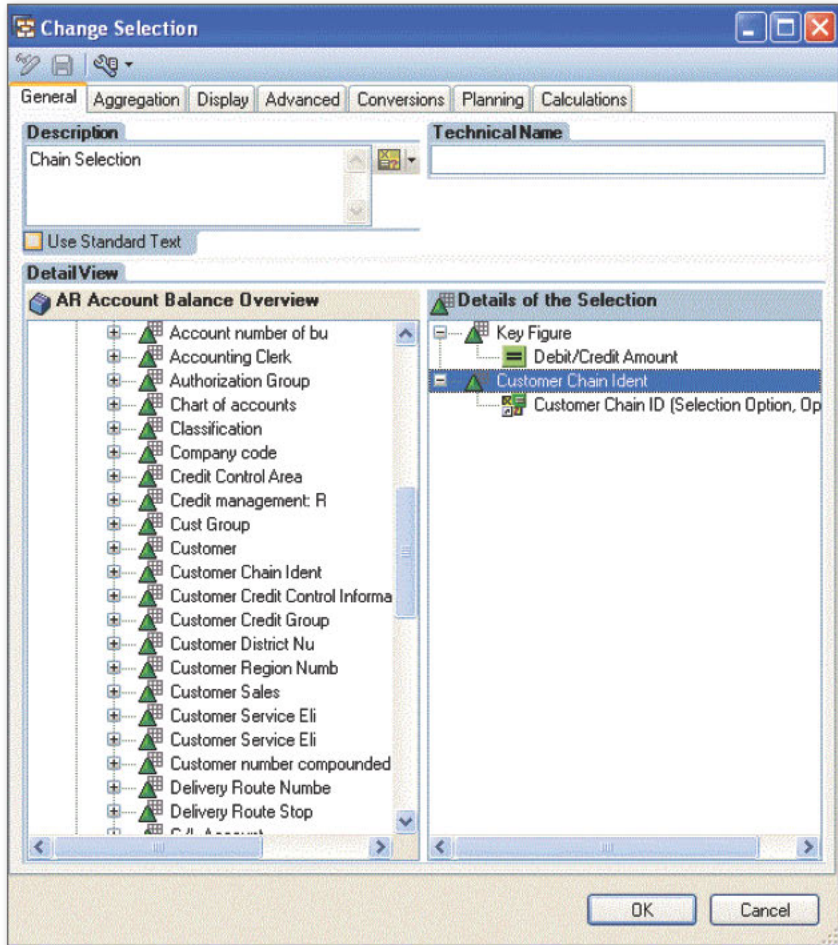

Figure 3 Create Restricted Key Figure with Customer Chain Variable
4. Create another restricted key figure; click and drag the key figure (i.e., DEBIT/CREDIT AMOUNT) and the variable (CUSTOMER CHAIN) to the DETAILS VIEW of the selection pane, and enter "Chain selection" in the DESCRIPTION field (Figure 3).